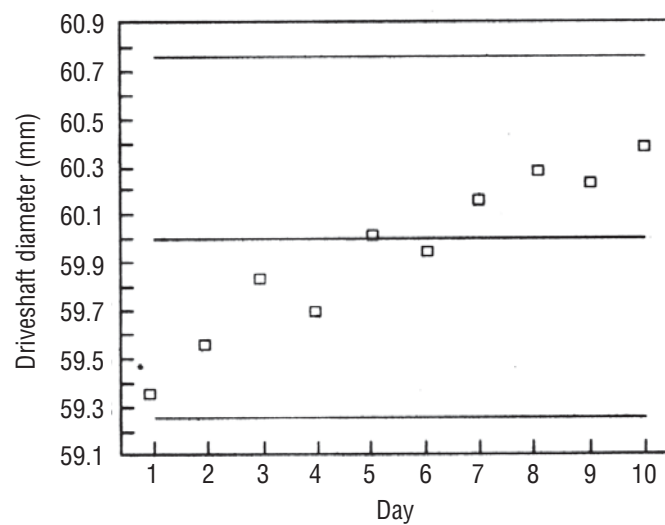

FIGURE 10-1 THREE \bar{x} CHARTS FOR THE DRIVESHAFT PRODUCTION PROCESS
For a period of 2 weeks, let's plot the daily sample means against time. This is called an \bar{x} chart. In Figure 10-1, we have plotted the results from three hypothetical sets of two weeks' worth of daily sample means. In each of these three \bar{x} charts, we have also included
So, if a process is in-control, essentially all observations should fall within the control limits. Conversely, observations that fall outside those limits suggest that the process is out-of-control, and they warrant further investigation to see if some special cause can be found to explain why they fall outside the limits. With this in mind, let's look at Figure 10-1.
In Figure 10-1(a), all observations fall within the control limits, so the process is in-control. In Figure 10-1(b), the second and eighth observations are *outliers*—they fall outside the control limits. In
What should we conclude about Figure 10-1(c)? Even though all 10 observations fall within the control limits, they exhibit anything but random variation. They show a distinct pattern of increase over time. Whenever you see such lack of randomness, you should assume that something systematic is causing it and
- **Individual outliers** (Figure 10-1(b)).
- **Increasing or decreasing trends** (Figure 10-1(c)). These indicate that the process mean may be drifting.